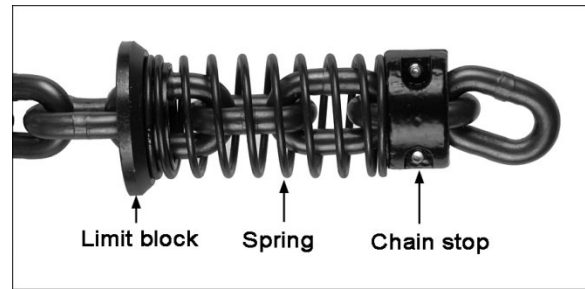

Figure 12
3. On the slack side of the chain, remove the chain stop, spring, and limit block (Figure 12). Keep these handy for later re-installing.
3. On the slack side of the chain, remove the chain stop, spring and limit block (see Figure 12). Keep these handy for later re-installing.